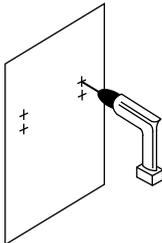

Fig 4
2. Drill 6mm holes where you have marked (Fig 4).